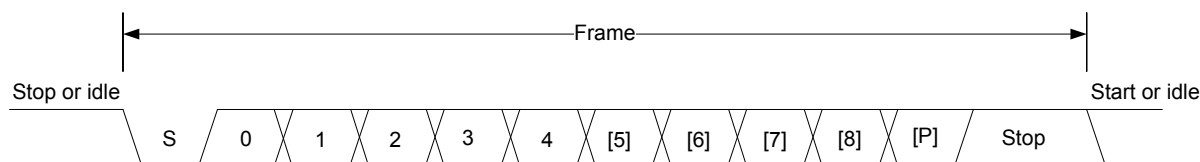

Figure 16.2. USART Asynchronous Frame Format
The frame format used in asynchronous mode consists of a set of data bits in addition to bits for synchronization and optionally a parity bit for error checking. A frame starts with one start-bit (S), where the line is driven low for one bit-period. This signals the start of a frame, and is used for synchronization. Following the start bit are 4 to 16 data bits and an optional parity bit. Finally, a number of stop-bits, where the line is driven high, end the frame. An example frame is shown in Figure 16.2 USART Asynchronous Frame Format on page 462.